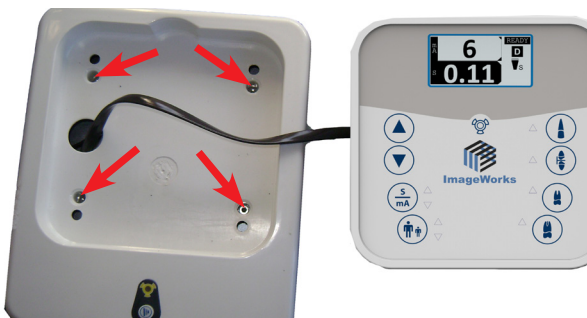
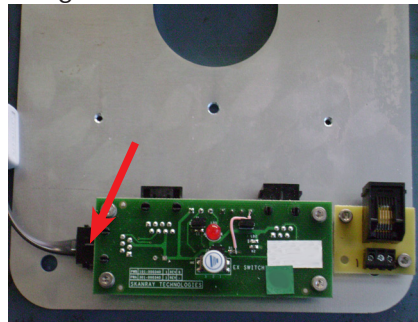

Figure 115
Figure 116
- Pull out the console assembly from the slot on the Keypad console and remove the front cover by removing 4 M3×6 HSHC Screws using 2.5mm Allen key as shown in Figure 115 .
- Holding the front cover along with console assembly disconnect the console cable from the Console extension board-external as shown in Figure 116 . Keep the removed parts aside.
- Take the new keypad console assembly from the packing box and pull out the console assembly from the slot on the Keypad console and remove the front cover by removing 4 M3×6 HSHC Screws using 2.5mm Allen key as shown in Figure 115 .
- Holding the front cover along with console assembly disconnect the console cable from the Console extension board-external(If connected) at the location shown in Figure 116 . Keep the removed parts aside.
- Take the new front cover with new console assembly and route the console cable through the hole provided on the front cover and connect the console cable to the J8 connector on the PCB as shown in Figure 116 . Fix the front cover with 4 M3×6 HSHC screws using 2.5mm Allen key as shown in Figure 115 .